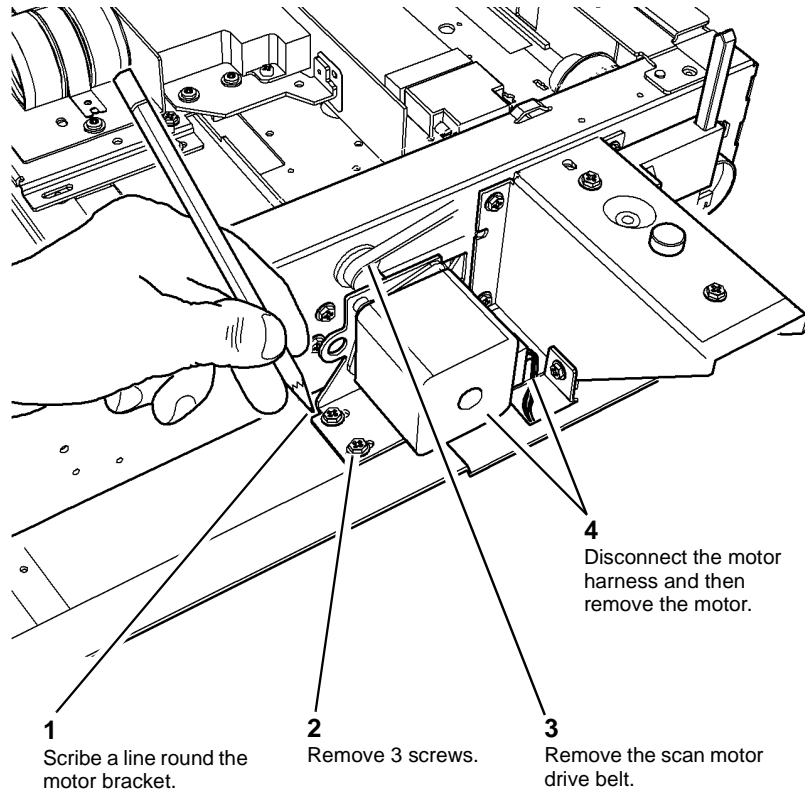

Figure 1 Scan motor
2. Figure 1. Remove the scan motor.
2. Ensure the motor bracket is aligned with the scribe line on the base of the scanner, Figure 1.